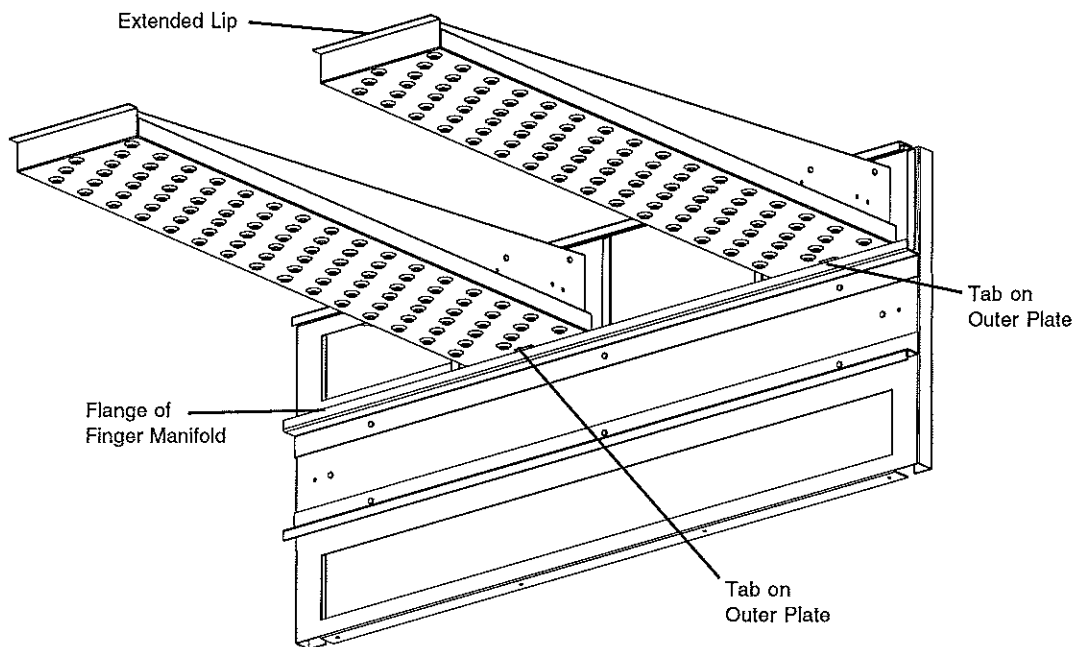

Figure 4-18.
**IMPORTANT:** When inserting fingers the tab on the outer plate must be in the groove as shown in Figure 4-18. There is a blocking tab on the outside of the groove which will prevent inserting the finger in the groove if the outer plate is moved away from the flange of the finger manifold.